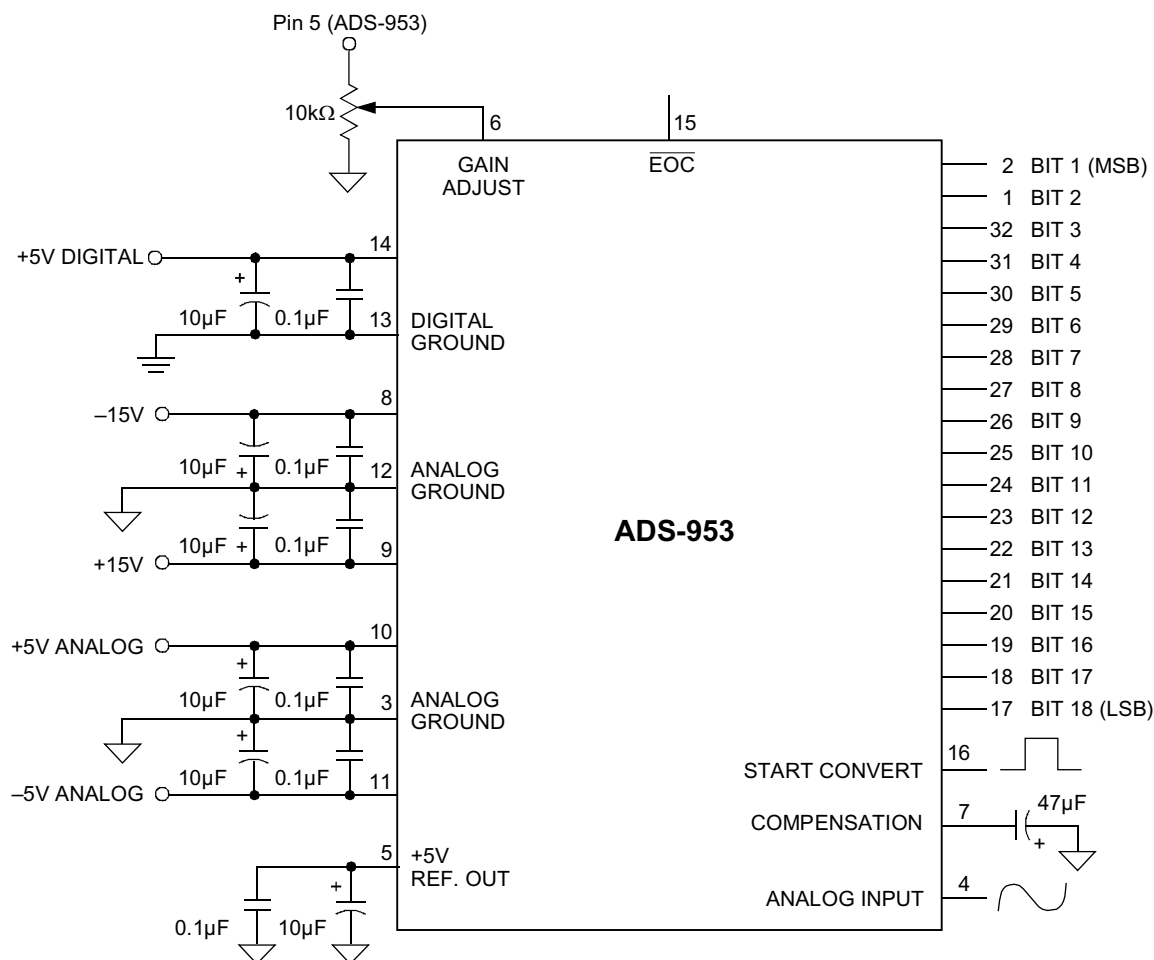

Figure 2. Typical ADS-953 Connection Diagram
- The ADS-953 achieves its specified accuracies without the need for external calibration. If required, the device's small initial errors can be reduced to zero using the adjustment circuitry shown in Figure 2. When using this circuitry, or any similar offset and gain calibration hardware, make adjustments following warmup. To avoid interaction, always adjust offset before gain. Float pin 6 if not using gain adjust circuits.
Connect the converter per Table 1 for the appropriate input voltage range. Any offset/gain calibration procedures should not be implemented until the device is fully warmed up. To avoid interaction, adjust offset before gain. The ranges of adjustment for the circuits in Figure 2 are guaranteed to compensate for the ADS-953's initial accuracy errors and may not be able to compensate for additional system errors.